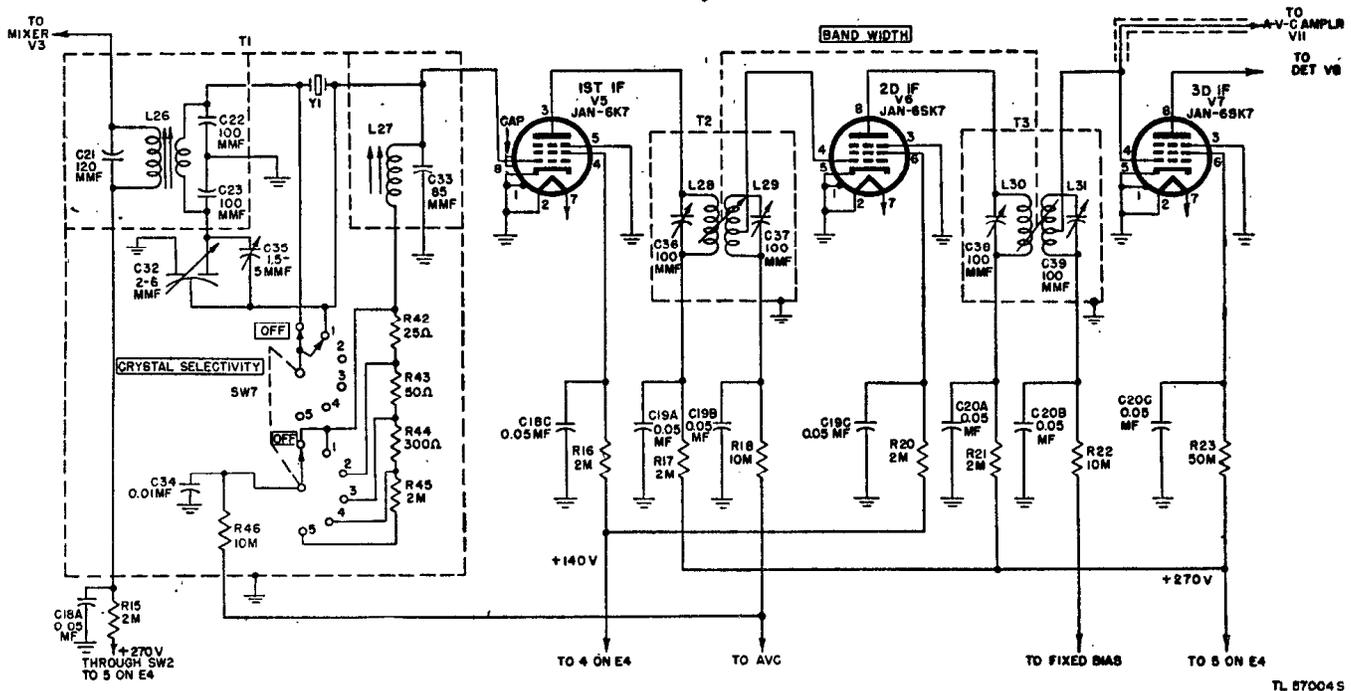

Figure 29. Radio Receiver BC-779-B, functional diagram of i-f amplifier.
62. I-F Amplifier (fig. 29)
a. INPUT STAGE TUBE JAN-6K7 (V5). (1) CRYSTAL SELECTIVITY switch at OFF. With the CRYSTAL SELECTIVITY switch, SW7, at OFF, the crystal filter is shorted. Consequently, the i-f signal is applied directly from input transformer L26 to the parallel-resonant grid circuit (permeability-tuned inductor L27 and 85-mmf capacitor C33) and to the control grid (top cap) of V5. C34 places the lower end of L27 at r-f ground potential. Grid bias is applied from the a-v-c line (par. 65) through 10,000-ohm decoupling resistor R46 which is bypassed by 0.01-mf capacitor C34. Plate (pin 3)
a. **A-V-C AMPLIFIER TUBE JAN-6SK7 (V11).** The output of the 2d i-f stage, V6, is applied simultaneously to the 3d i-f stage, V7 (fig. 29),